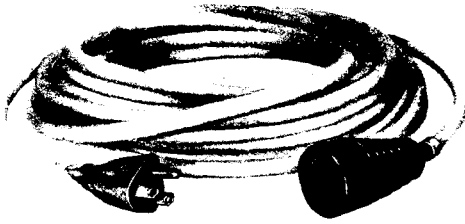

Fig. 6—Extension Cord
3.05 C and D extension cords shown in Fig. 6 are available for connecting power tools to outlet receptacles remotely located from the work area. These cords, 30 feet in length, have a standard molded male plug at one end and a standard molded female connector body at the other. The C extension cord is wired with 18-gauge conductors while the D cord uses 14-gauge conductors.